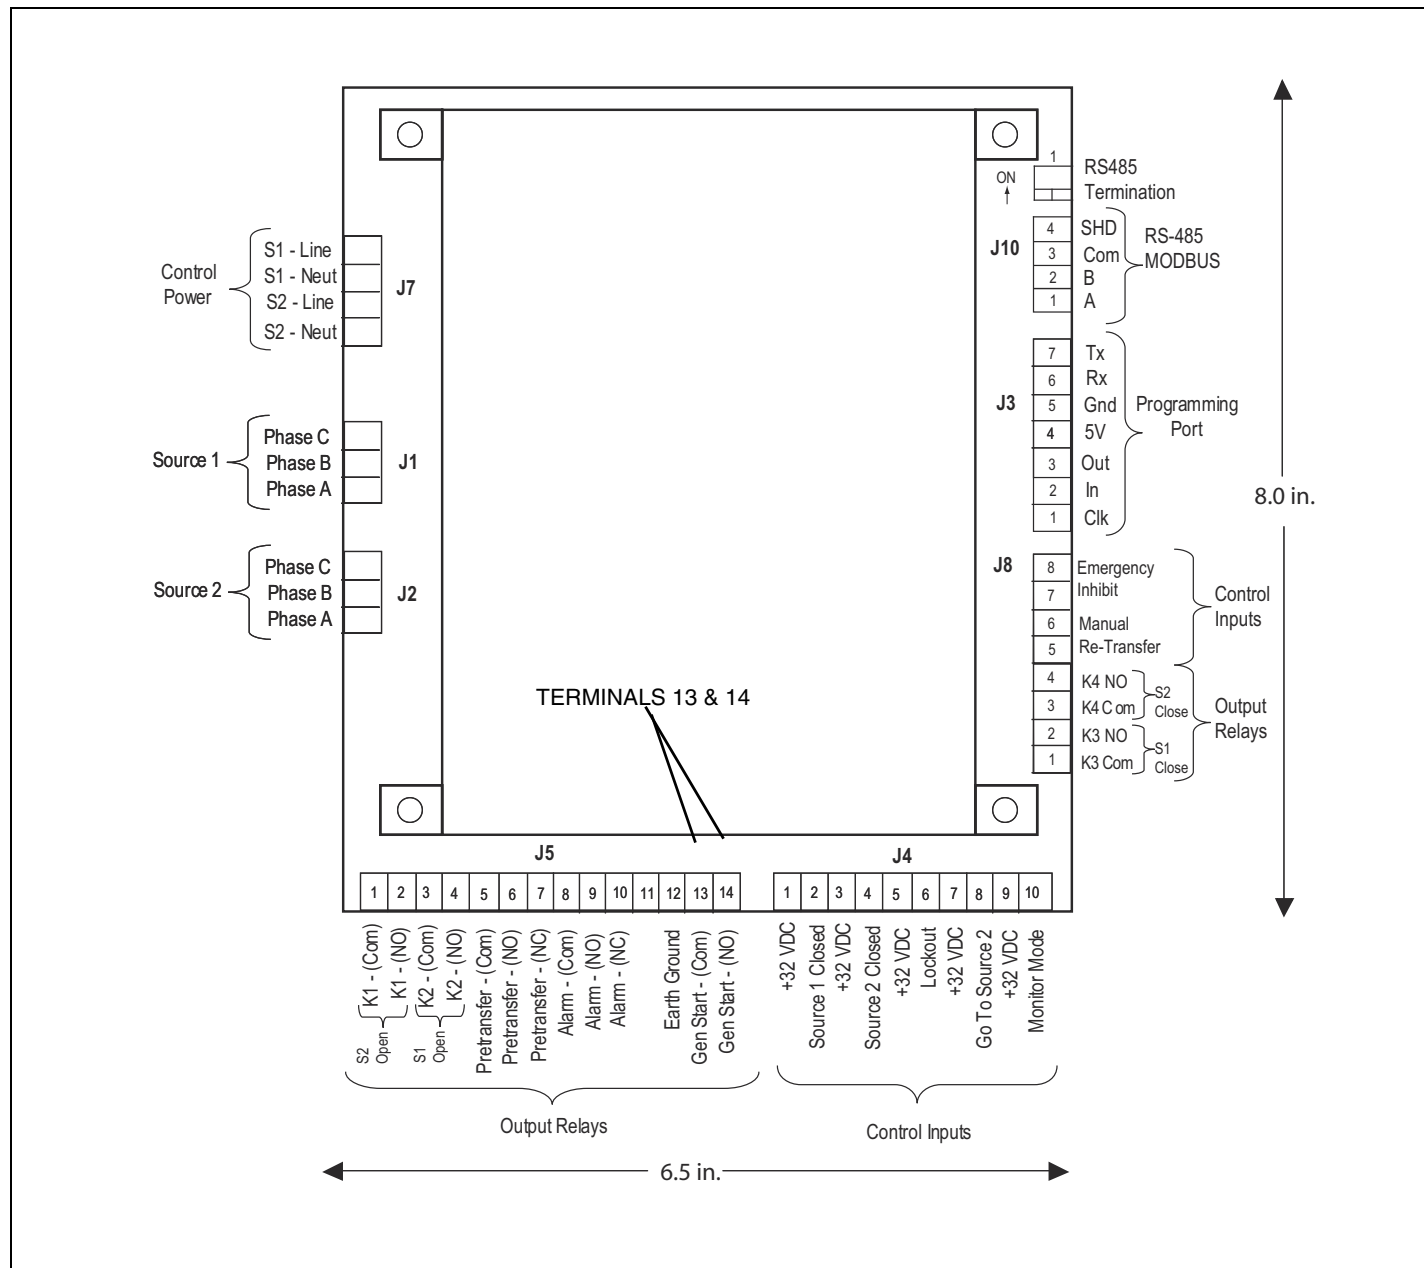

Figure 19. Engine Generator Control Connection (ATC-300+).
Step 4: Connect the Engine Generator Start wires to terminals 13 and 14 on the J-5 connector on the ATC-300+ Controller (Figure 19). This contact is CLOSED whenever